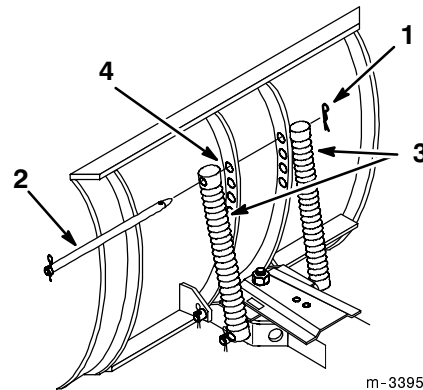

Figure 15
You can mount the blade trip springs in four positions. The top hole provides the greatest scraping pressure and the bottom hole provides the least scraping pressure (Fig. 15). Toro recommends using the second hole from the top for removing snow.
1. Remove the hairpin cotter and slide the rod from the blade and springs (Fig. 15).
2. Slide the rod through the springs and the new hole position in the blade (Fig. 15).